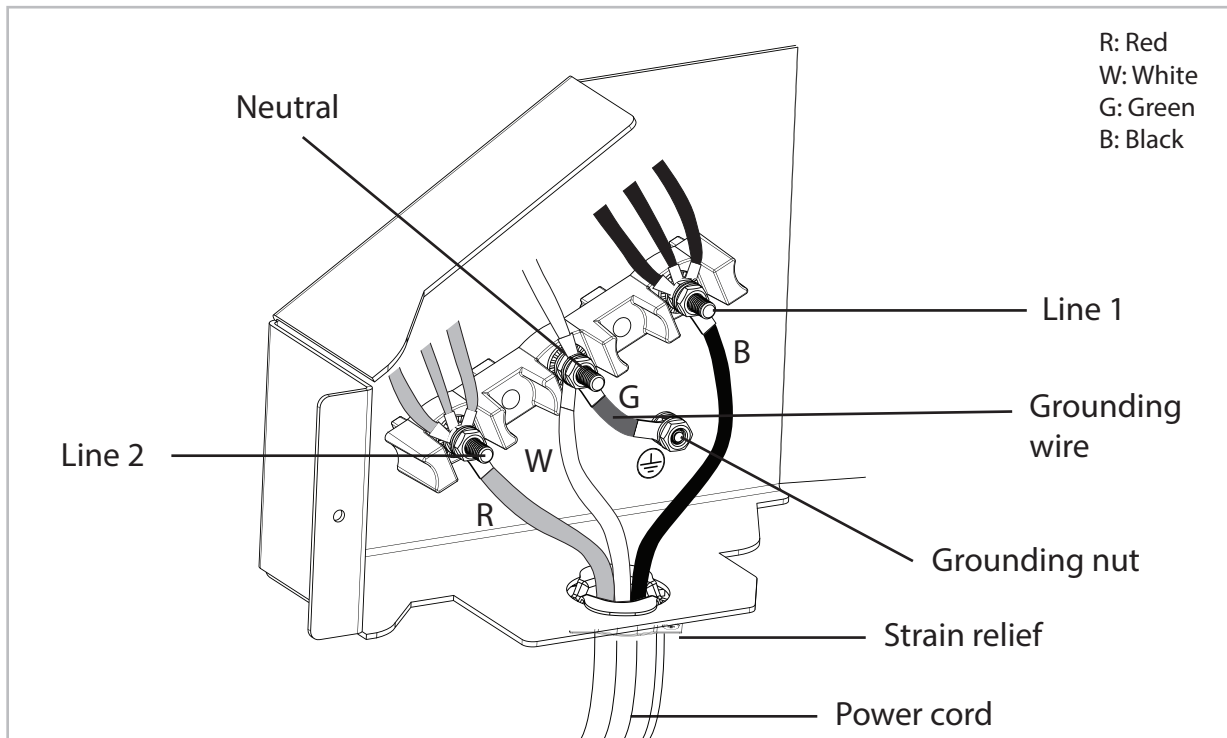

Figure 7 – Three wire connection
4.See Figure.7 for 3 wire power connection and figure.8 for 4 wire connection.